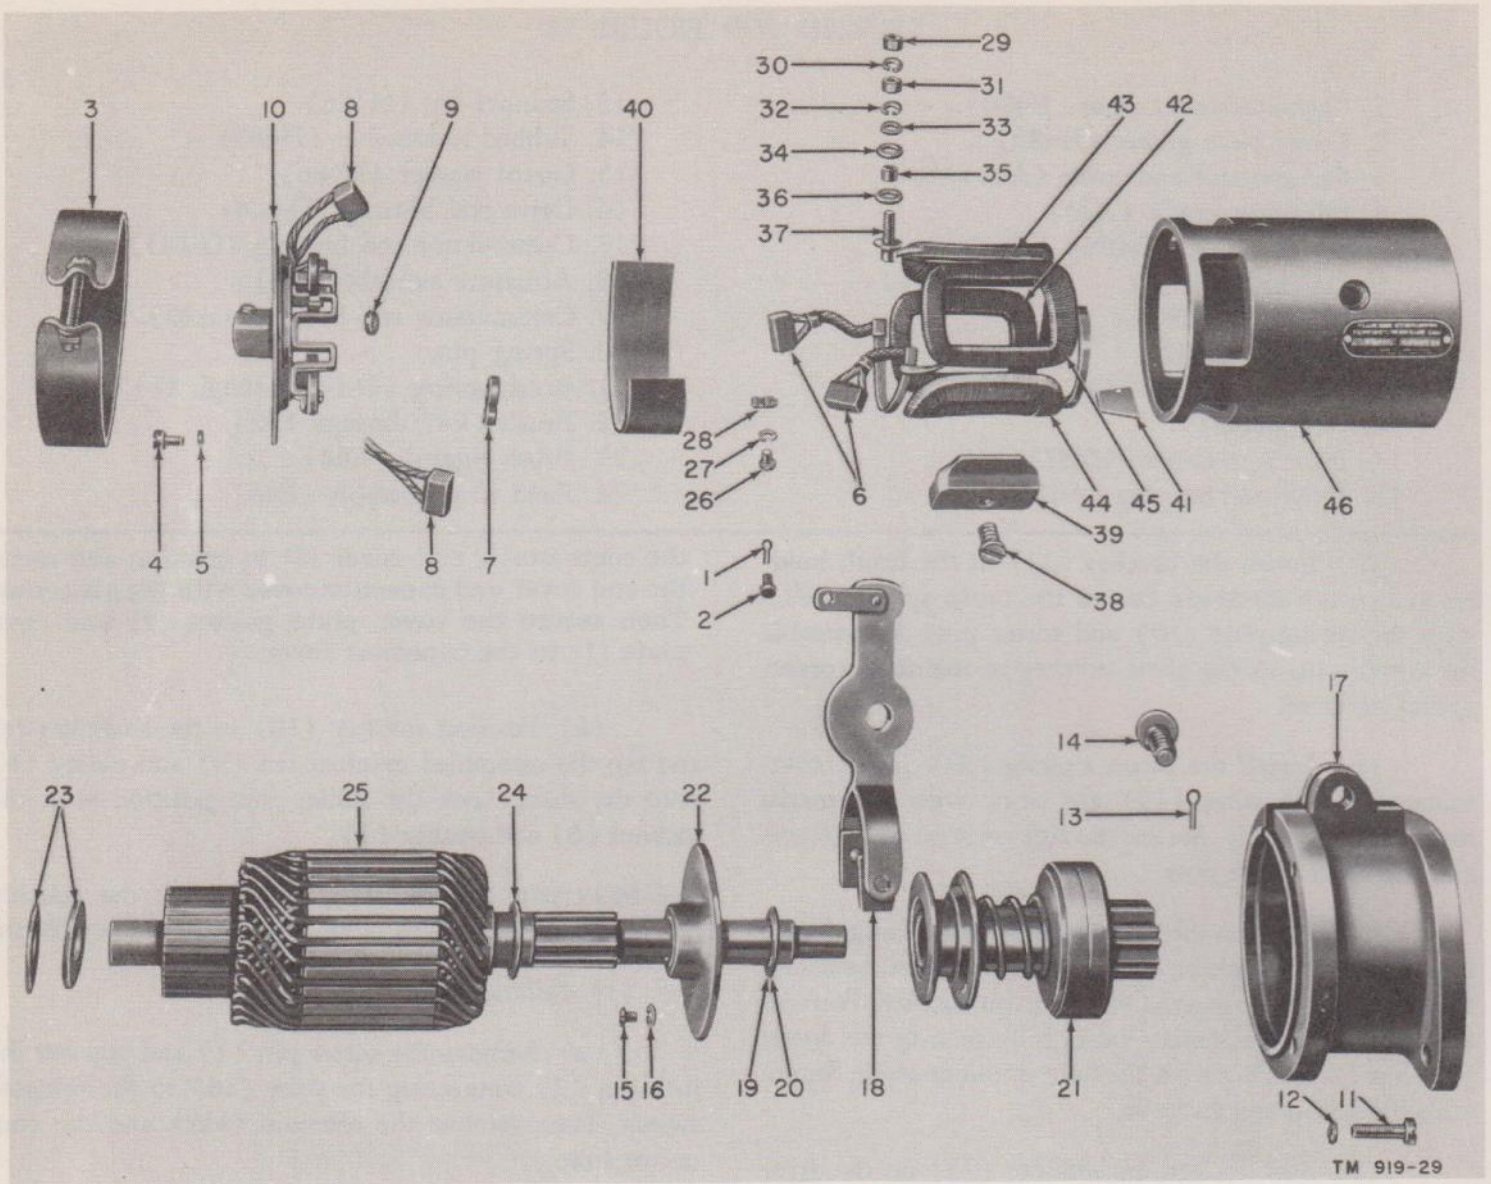

Figure 29. Starting motor, exploded view.
j. STARTING MOTOR (fig. 29). After the starting motor has been removed (par. 53*n*), proceed as follows:
LEGEND FOR FIGURE 29